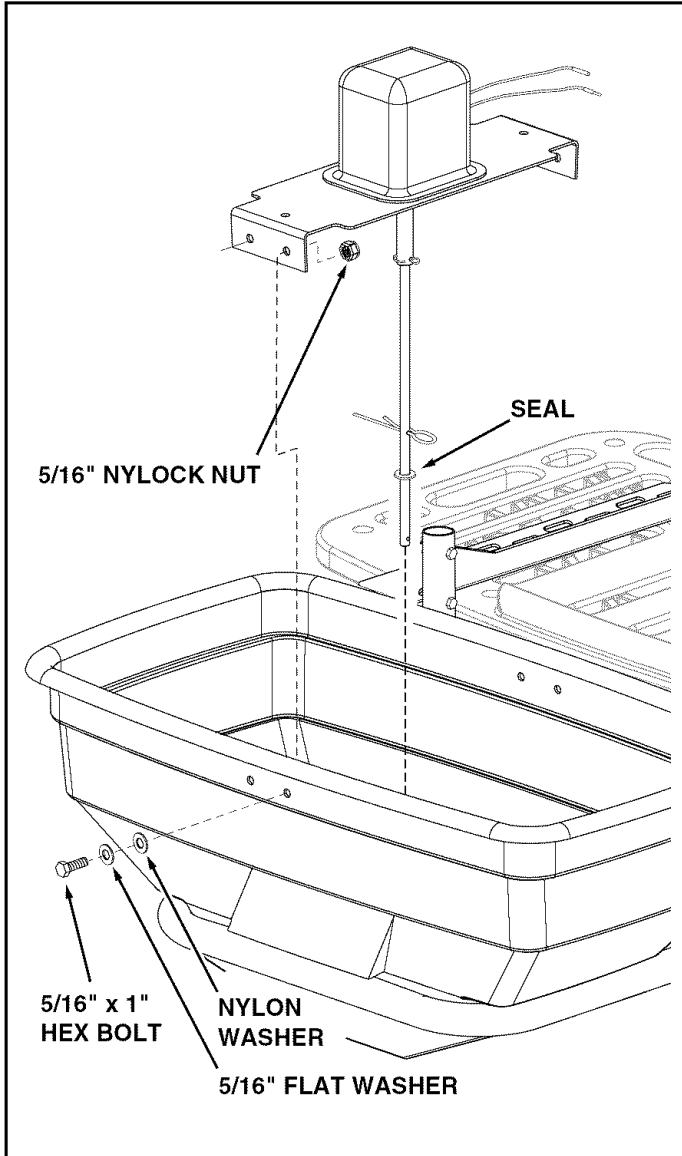

FIGURE 8
14. Place the motor assembly down into the hopper, inserting the spreader shaft through the plastic bushing in the bottom of the hopper. Fasten the motor mount bracket to the hopper using four 5/16" x 1" hex bolts, 5/16" flat washers, nylon washers and 5/16" nylock nuts. See figure 8.
15. Slide the seal down the spreader shaft against the top of the hopper bushing. See figure 8.